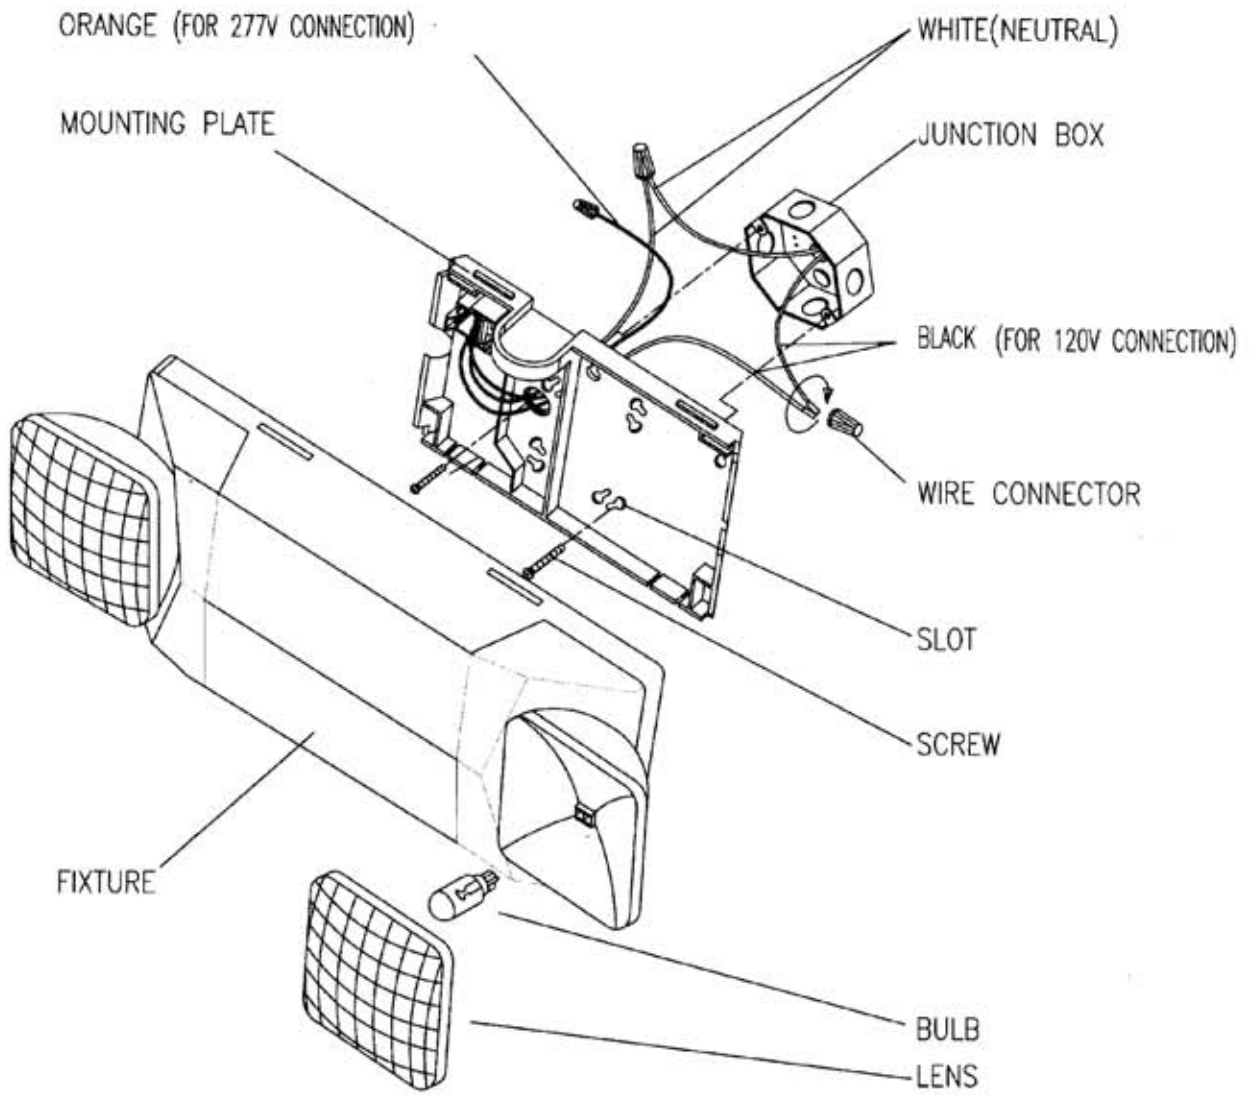

Fig.1
1. Remove mounting plate from fixture by prying with screwdriver (See Fig.1)
1. Remove mounting plate from fixture by prying with screwdriver gently.(See Fig.1)